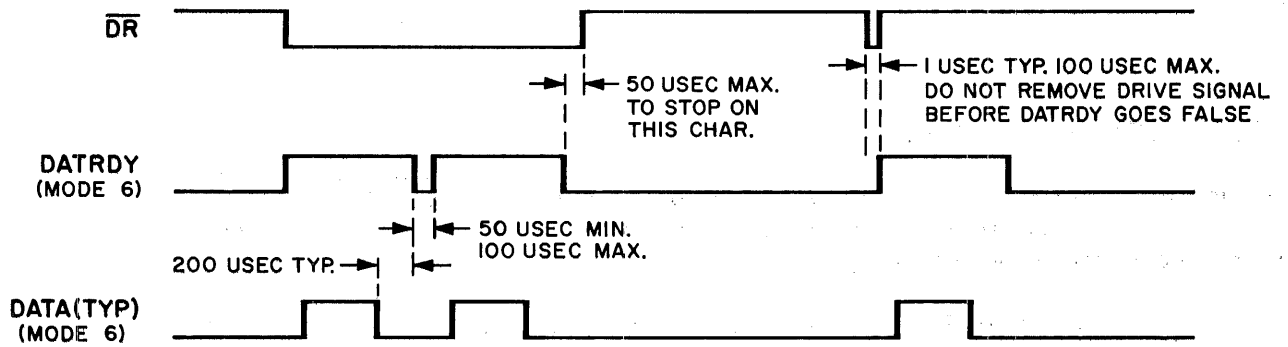

Figure 3-1. Timing Diagram for RR-6300BXX.
Table 3-1 lists those input and output signals which are routed through connector J1. The definition and/or usage of these signals are also included in the table. Figure 3-1 shows the timing diagram for these signals.
- b. Apply the following drive signal to the $\overline{\text{drive left}}$ (DL) line, pin 17 of J1, or the drive right (DR) line, pin 16 of J1 as follows. Make sure the Data Ready signal at pin 9 of J1 is in the true condition depending upon mode and that the External Inhibit input signal at J1, pin 15, is false ($+2.4\text{V} < \text{V} < +5.0$ or open circuited). See Table 3-1 and Figure 3-1.